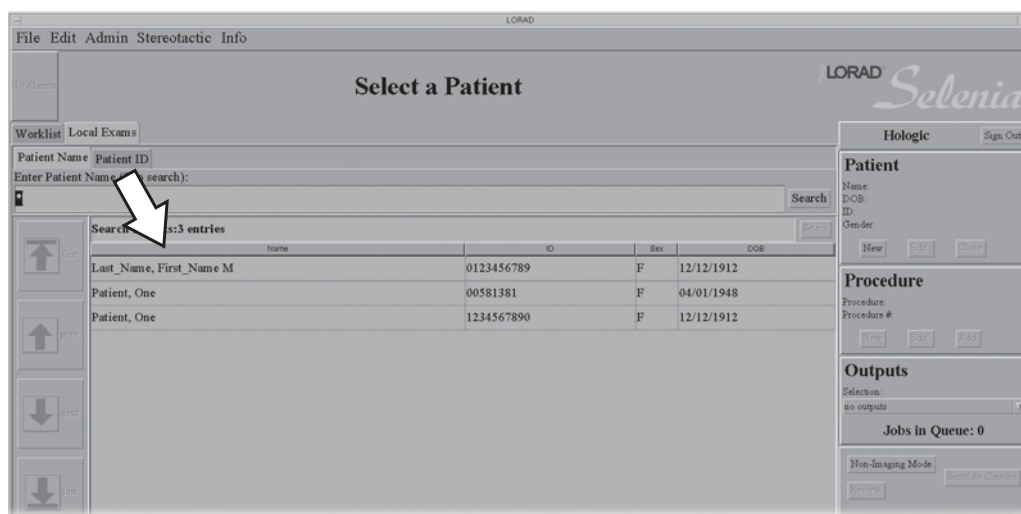

Figure 3-15: Select a Patient Screen
- The system searches its local database for the Patient or Procedure ID and displays the list of patients matching the search criteria (see Figure 3-15).